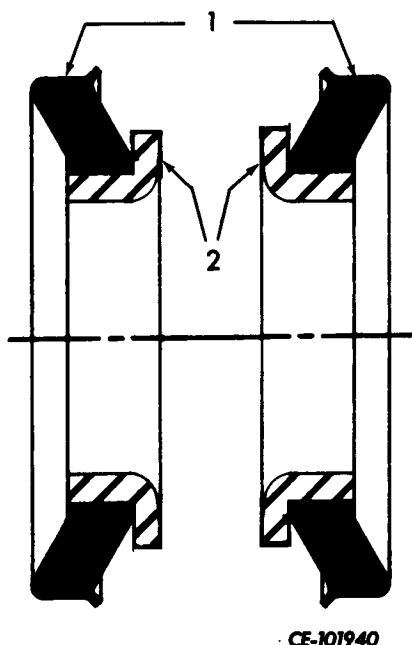

Figure 6-3
Using clean solvent, thoroughly degrease surfaces of seal bores in wheel hub (4) and seal retainer (19) that will contact rubber Bellville washers (1, Fig. 6-3) of metal face seal.
After installation, wipe both sealing faces (2, Fig. 6-3) clean with a lint free wiper. After wiping, apply a thin film of clean SAE 30 oil to surface of sealing faces only.